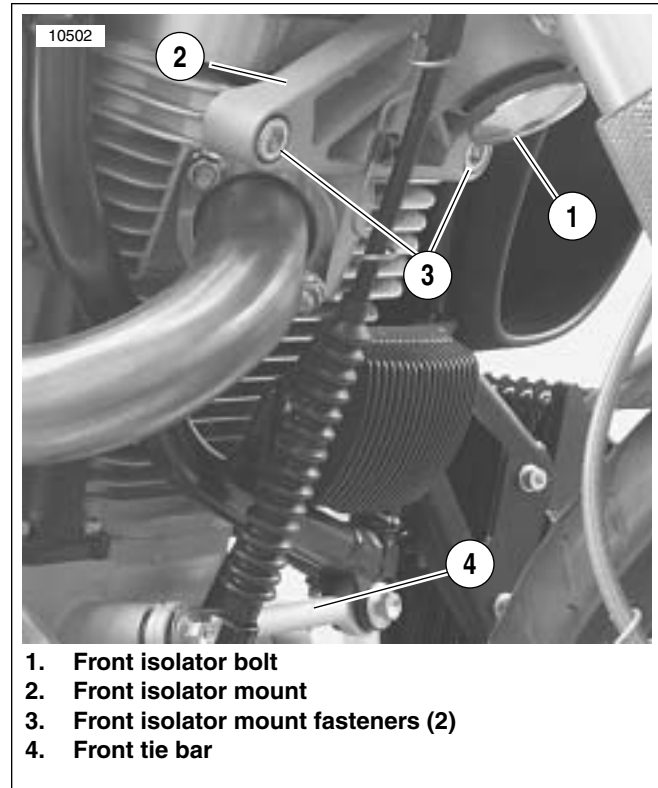

Figure 3-8. Front Isolator and Tie Bar Assemblies
2. See Figure 3-8. Insert front isolator bolt (1) through front isolator (2) and loosely thread into frame. Do not tighten at this point.
3. See Figure 3-8. Install isolator mounting fasteners (3) and tighten to 49-51 ft-lbs (66.4-69.1 Nm).